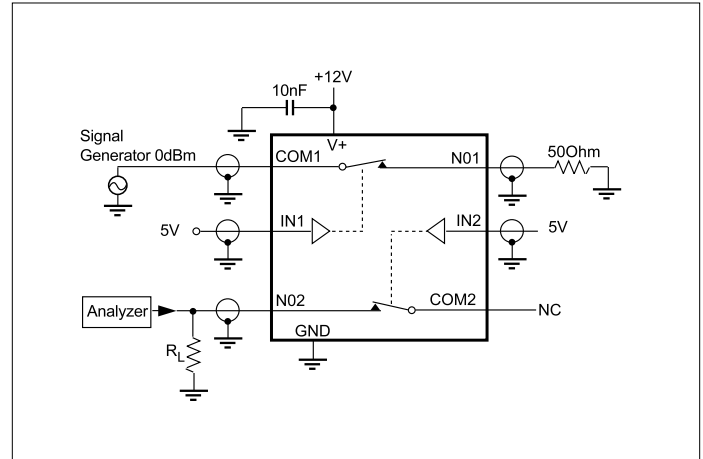

Figure 5. Crosstalk
| Crosstalk (8)              | X TALK     | R L = 50Ohm, C L = 5pF, f= 1 MHz, Figure 5              |           |                    | -86                |                    |       |